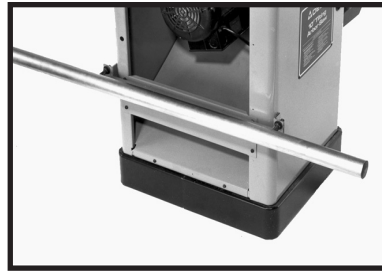

Fig. 16
4. Fasten the lower rail assembly to the saw cabinet (Fig. 16), using the hardware From **STEP 1**.